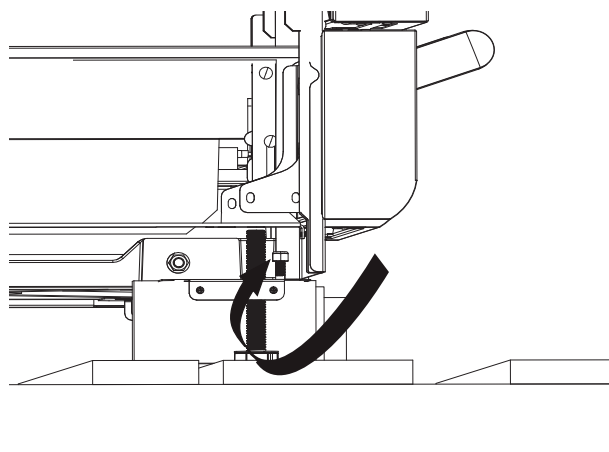

Figure 8: Removal of Bolts Beneath Warming Drawer
3. PRDS48JD SGU/C models: To access the pallet bolt located beneath the warming drawer reach up and behind the frame of the unit with one 1/2" wrench to hold the nut at the top (see Figure 8). Use the second wrench to loosen the bolt at the bottom. DO NOT remove the warming drawer.